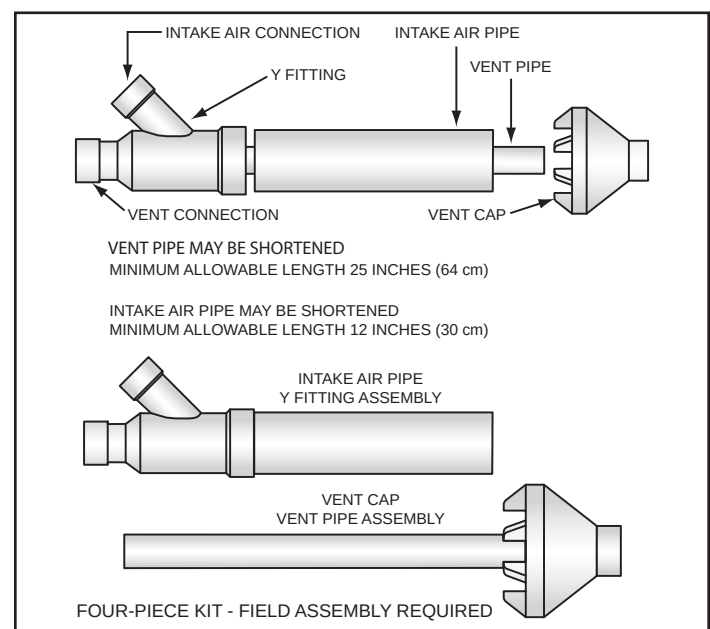
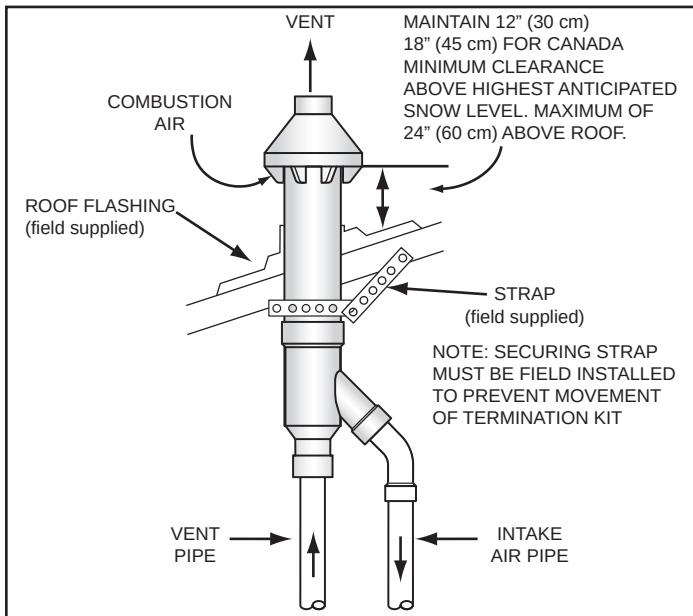
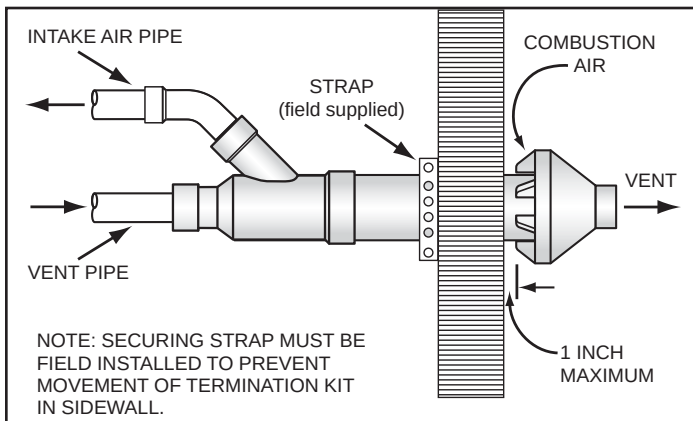

Figure 28. Concentric Termination Kit
Figure 29. Concentric Termination Clearances - Vertical Installation
Figure 30. Concentric Termination Clearances - Side-Wall Installation
3. When installing a concentric termination vertically through the roof; ensure that all exterior vertical clearance requirements for the concentric termination, shown in *Figure 29* (page 31) are being maintained. These clearances and those cited by local and national codes must be maintained.
- See *Figure 28* (page 30) for the minimum lengths allowed for the concentric termination.**Note:** When shortening the length of the termination, carefully measure and cut the larger (intake air) pipe first. Cut the same amount of pipe from the smaller (vent) pipe.
Assemble and install the concentric termination. Refer to *Figure 28*, *Figure 29* (page 31) and *Figure 30* for these instructions: